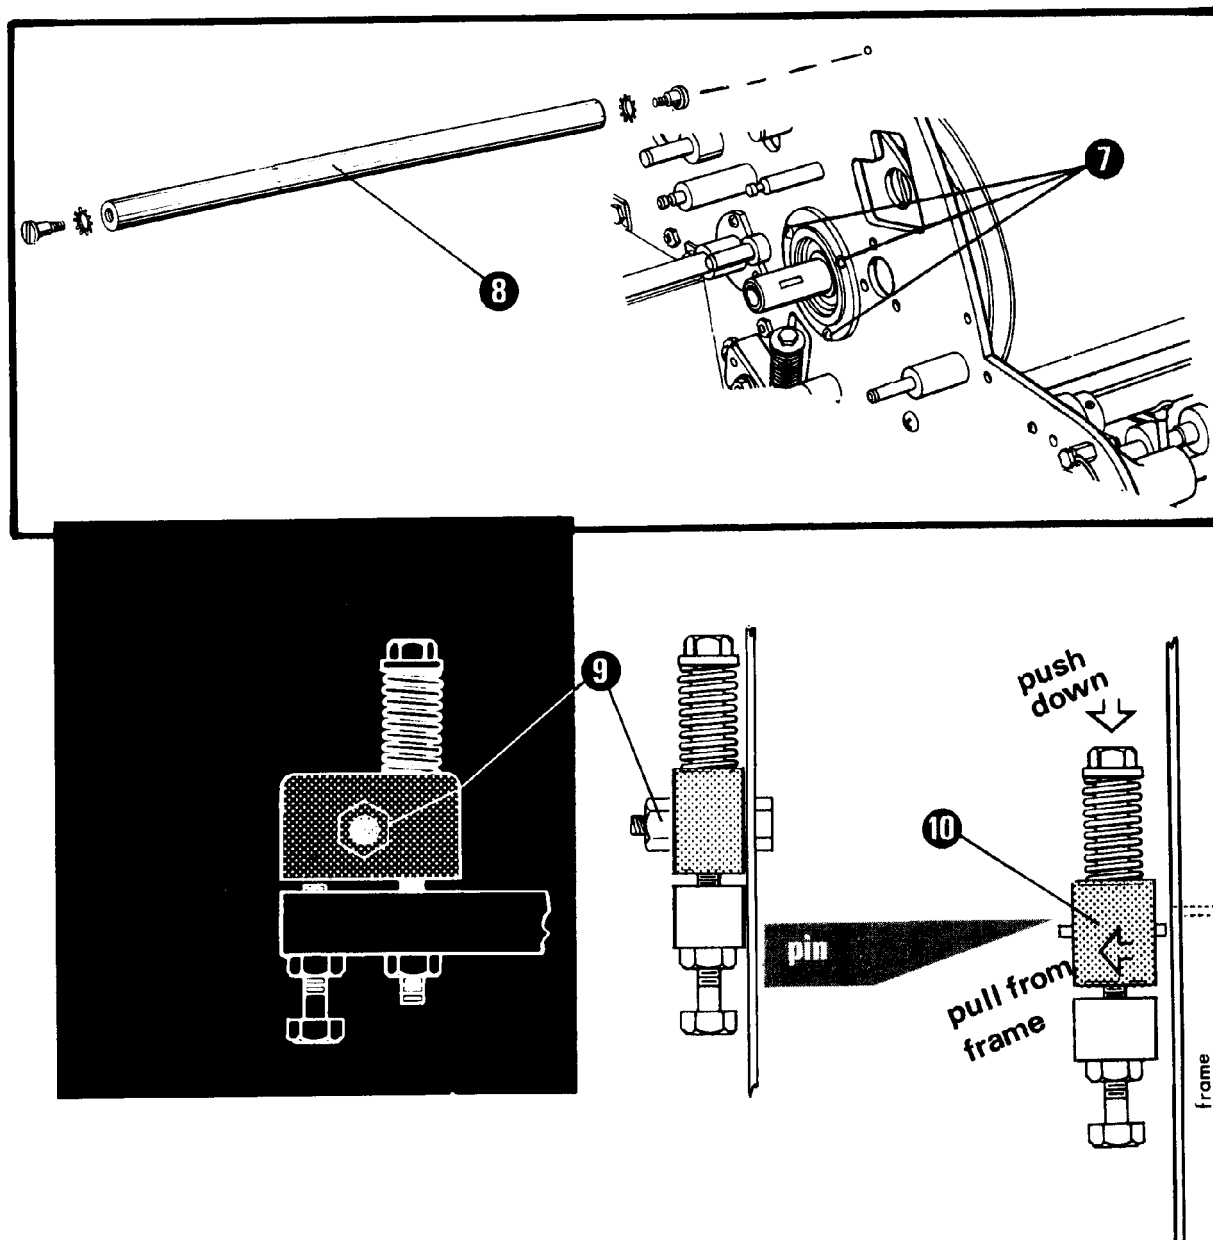

Figure 75 - Component Removal
7. Remove the blanket cylinder operator side bearing and housing. Remove the three screws and nuts (7) as shown in Figure 75. Do not remove the bearing from the housing.